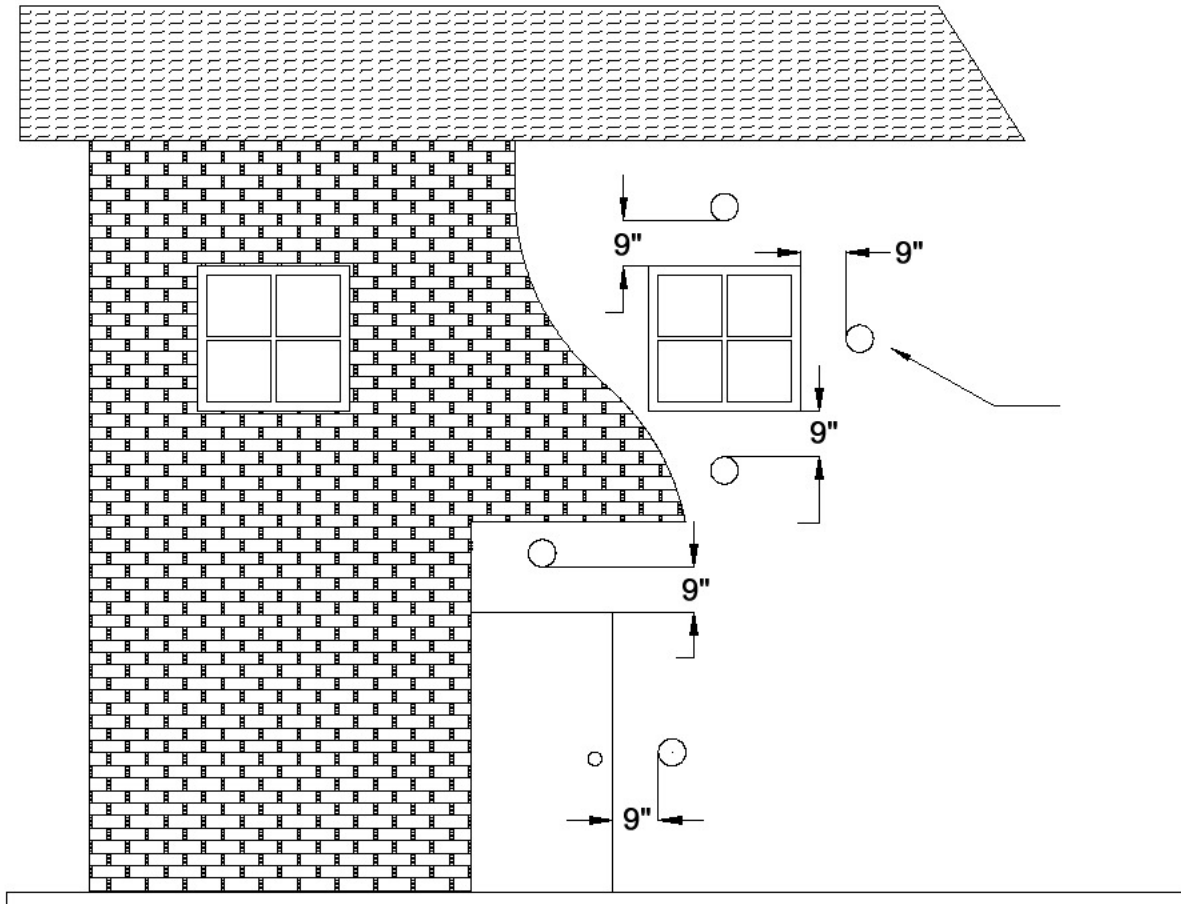

Figure 10
- a. **Without** Outside Air connected to the unit. For These types of installations please refer to the dimensions listed on the next page in figure 10.